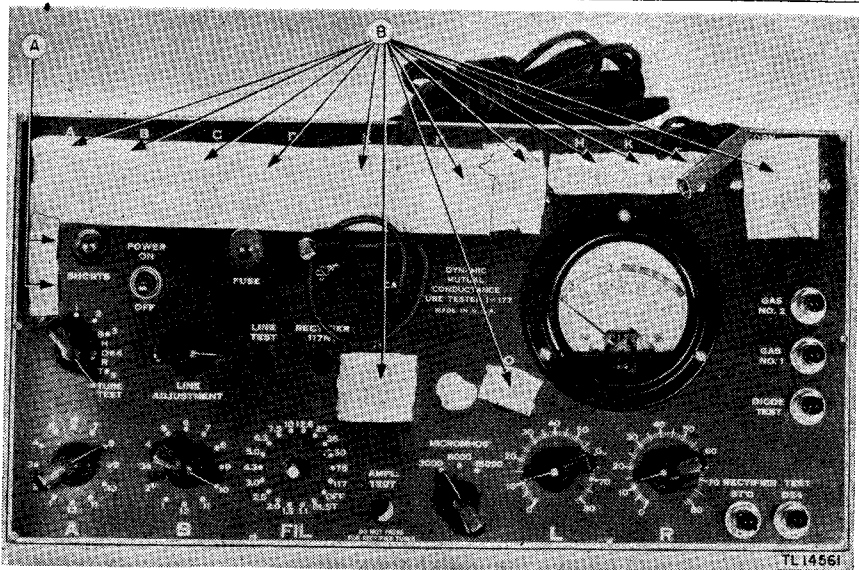

Figure 11. Tube Tester I-177, front view, masking for moistureproofing and fungiproofing.
- (l) Faces of noise test jacks, item A, figure 11.
- (m) Faces of all sockets mounted on front panel, item B, figure 11.
(3) PREPARATION. Thoroughly clean all equipment to be treated by removing all oil, dirt, rust, or fungus adhering to components.
(4) DRYING.
(5) VARNISHING.